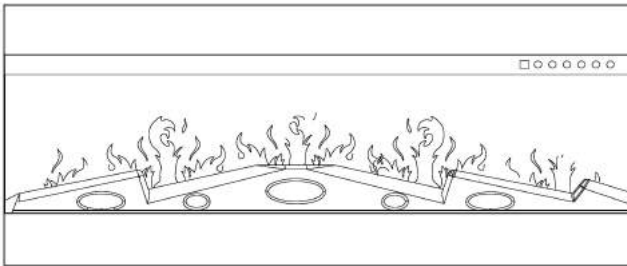

Figure 1
**C.** Place unit face down on a soft, non abrasive surface. Remove the bracket from the back of the unit by removing the screws, refer to Figure 1.
- B. If your fireplace come with log-set, take the log-set out of the package and put it to the fireplace media slot . **Figure 1.**